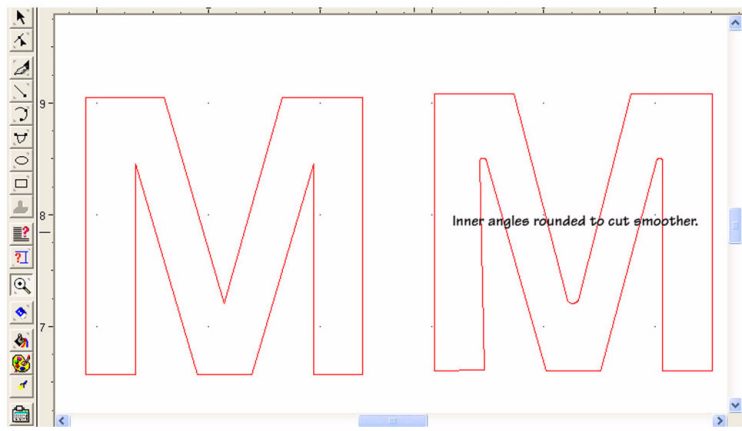
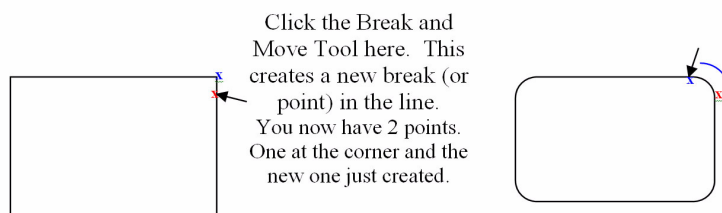

Figure 167
Figure 168
- Use the **Move Point** tool to move the point away from the break. Doing so creates curves instead of points. The curve is imperceptible to the eye but greatly eases cutting. See figure 167 and figure 168.